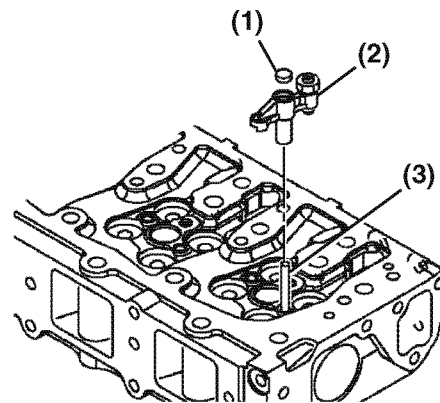

Figure 6-64
Visually inspect the contact surface at both ends of the valve bridge (**Figure 6-64, (2)**) for excessive wear or mushrooming.
Remove and inspect the seat (**Figure 6-64, (1)**).
Measure the diameter of the valve bridge guide pin bore in the valve bridge and guide pin (**Figure 6-64, (3)**). See *Rocker Arm and Shaft* on page 6-7 for the service limit.